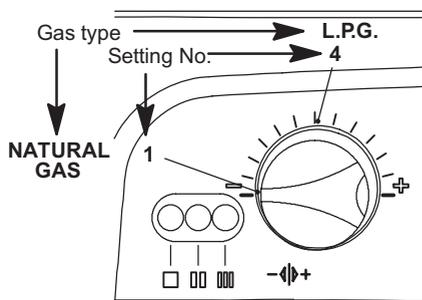

Fig. 8.5
At this step it is possible to visualize the current setting by keeping the reset button 6 pressed for more than 5 seconds. The lamps 9 will flash a number of times corresponding to the setting of the knob 8 in Fig. 8.5.
- To change the setting turn the knob 8 on a position corresponding to the gas used as shown in Fig. 8.5. By turning the knob 8, the lock-out signal lamp 5 blinks quickly (2 per seconds) indicating that the setting has changed and must be memorised.